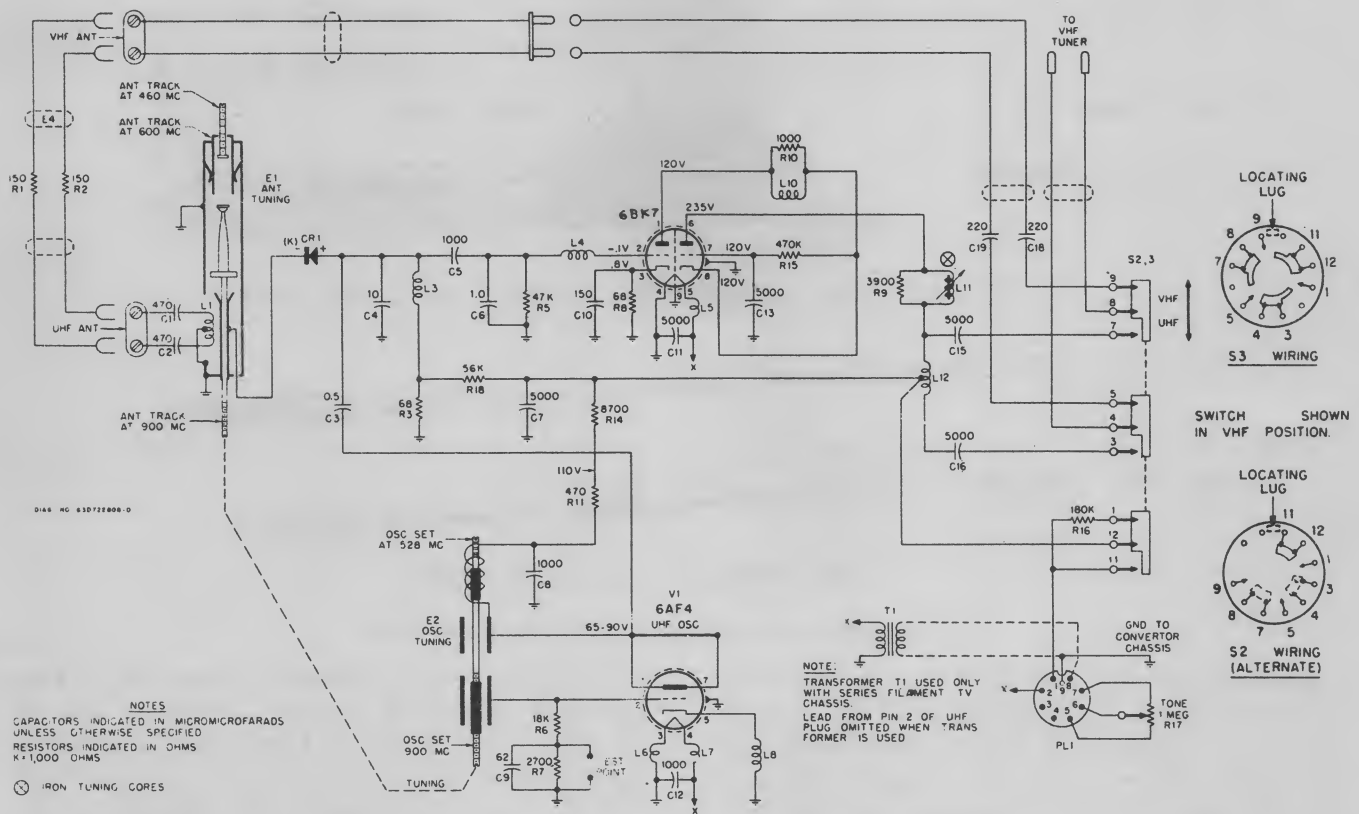

Fig. 9-11. UHF converter: Motorola 21T4AC.
c. *Capacity-Loaded, Shorted, Quarter-Wave Coaxial Line.* Figure 9-11 is the diagram of the converter used in the Motorola 21T4AC chassis. It is an example of the use of a capacity-loaded, shorted, quarter-wave coaxial line used as the tuning element. Physically, however, the quarter-wave line is altogether different from the circular line used in the two tuners previously described.